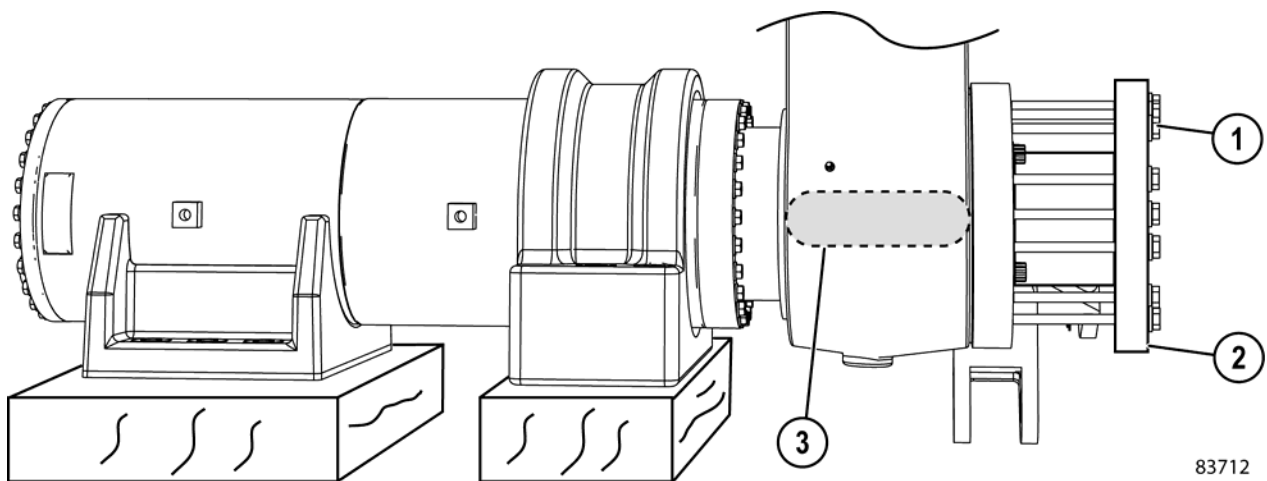

FIGURE 3-6. PUSHER TOOL INSTALLATION
1. Position the suspension and spindle assembly on the work floor as shown in Figure 3-6. The combined weight of the spindle, hub and brake assembly and front suspension is approximately 9 375 kg (20,665 lb). Ensure the lifting device can handle the load safely.
3. Install pusher tool (2, Figure 3-6) using cap screws and washers (1) specified below:
5. If the specified torque is reached and the parts have not separated, slightly loosen the cap screws and slowly and uniformly apply heat to the spindle as shown (3, Figure 3-6). Heat must be applied in two locations 180 degrees apart. Allow heat to penetrate into the spindle. Reapply heat as required. **Do not exceed 454 °C (850 °F) anywhere on the spindle.**